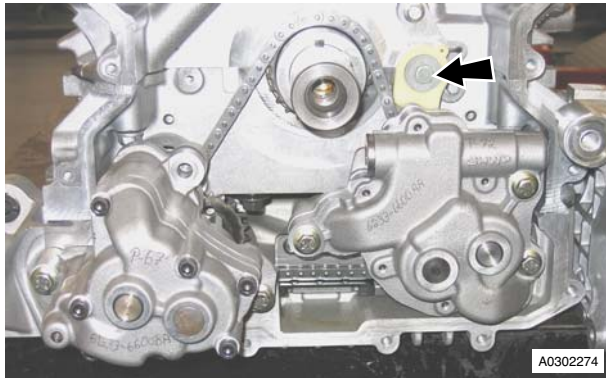

Figure 1
- Remove bolts (x3) that attach the oil scavenge pump to sump (refer to Figure 1).